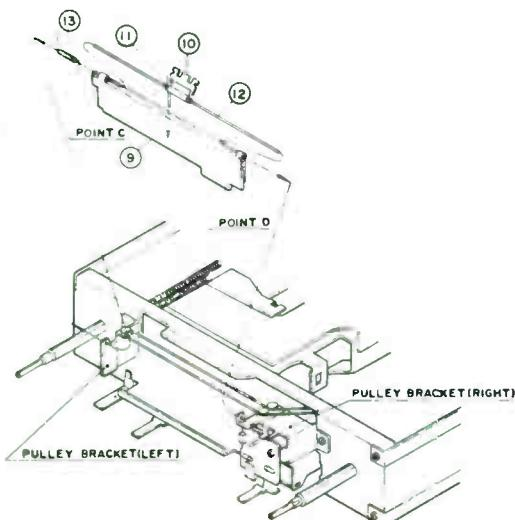

Figure 4-2
- (1) Insert the dial scale rod (12) into the assembly of the dial pointer (11) and dial pointer slider (10) (Shown in Figure 4-2).
- (2) Put the dial pointer (11) into the opening of the dial scale (9).
- (3) Insert the dial scale rod (12) (at its left end) into the point C of the dial scale (9), and inclose it with the dial scale spring (13). And put another end of the dial scale rod (12) into the point D of the dial scale (9).
- (4) After checking that the jobs in the above three steps have been completely done, insert one end of the dial scale rod